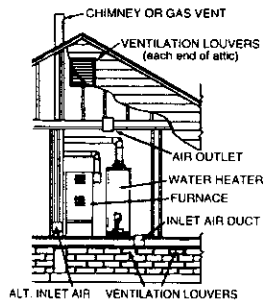

Figure 7
b. ALL AIR FROM OUTDOORS: (see Figures 7 through 9, page 12)
1. When directly communicating with the outdoors, each opening shall have a minimum free area of 1 square inch per 4,000 BTU per hour of total input rating of all equipment in the enclosure. (See Figure 7.)